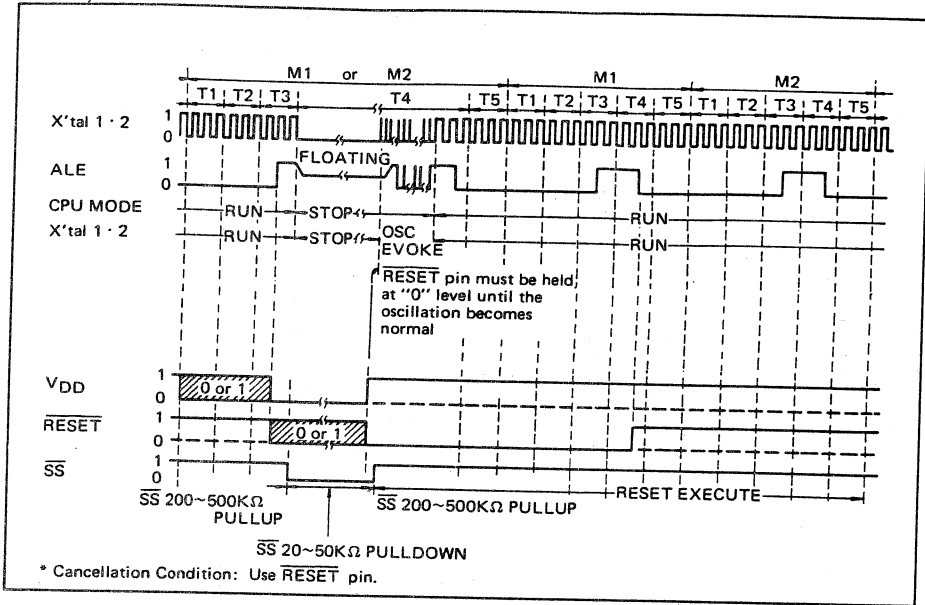

Fig. 4-5 Hardware Power-Down Mode Timing Chart
(1) Use of RESET pin
- The clock generator is activated and the CPU started up when a "1" level is applied to the V_{DD} pin while a "0" level is input to the RESET pin. If this "0" level is kept applied to the RESET pin until oscillation become stable, the CPU will be reset and will start executing from address 0. The timing chart is outlined in Fig. 4-5.
(2) Use of the \overline{INT} pin during external interrupt enabled status (i.e. following execution of ENI instruction)